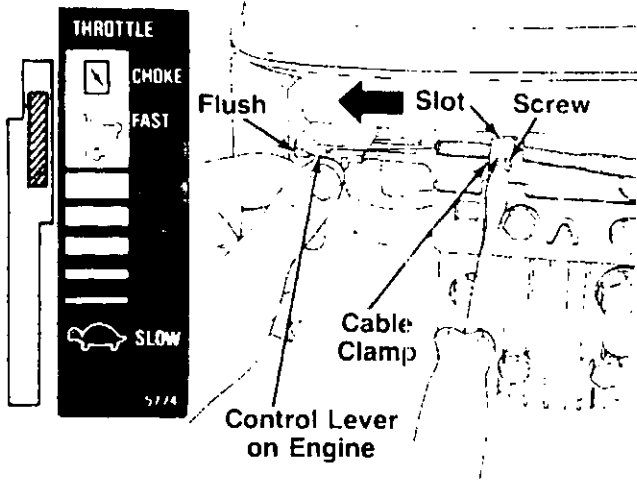

FIGURE 6C.—Models 436R and 439R
1. Push the throttle control lever on the handle all the way forward to CHOKE, then back it off **two** "clicks" (approximately 5/16"). See figure 6C.
2. The throttle control cable is attached to the upper handle. Route the throttle control cable under the lower handle and inside the handle mounting bracket. Hook the "Z" end of the throttle control cable into the hole in the control lever on the engine. See figure 6C.
3. Using a 5/16" wrench or nutdriver, remove the screw on the cable clamp shown in figure 6C. Slip the control cable under the clamp. Replace the screw (cable should be above the screw), but do not tighten (cable must still move freely beneath the clamp). Make certain the tab on the cable clamp is seated into the slot on the engine.
4. Push the control lever on the engine as far toward the **outside** of the engine as it will go. The edge of the control lever should be flush with the bracket on the engine. See figure 6C. Hold the control lever in this position as you tighten the screw on the cable clamp to secure the throttle cable.